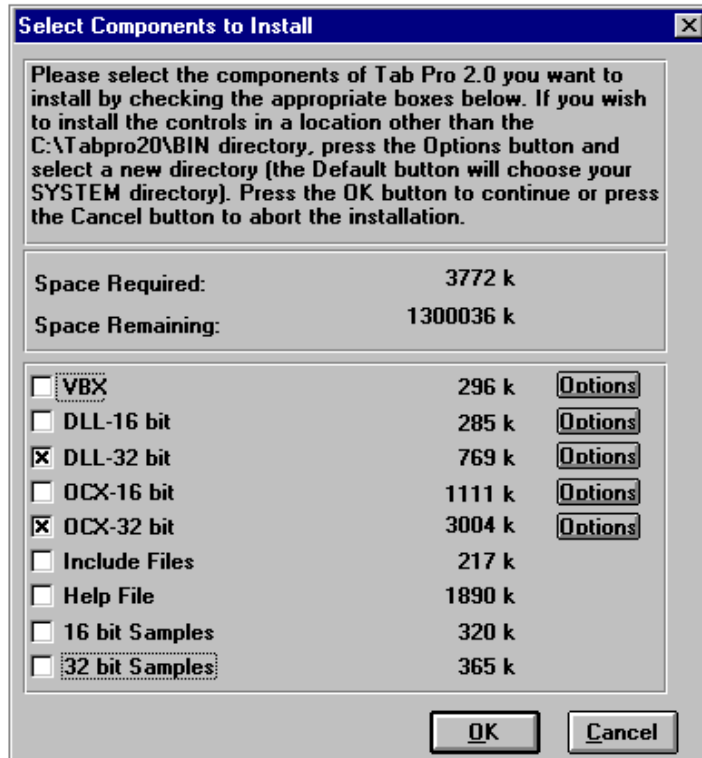

FIGURE 37. TabPro Select Components to Install Dialog
8.70 Un-check all selections EXCEPT the 'DLL-32 bit' and 'OCX-32 bit' components on the 'Select Components to Install' dialog as shown in Figure 37.